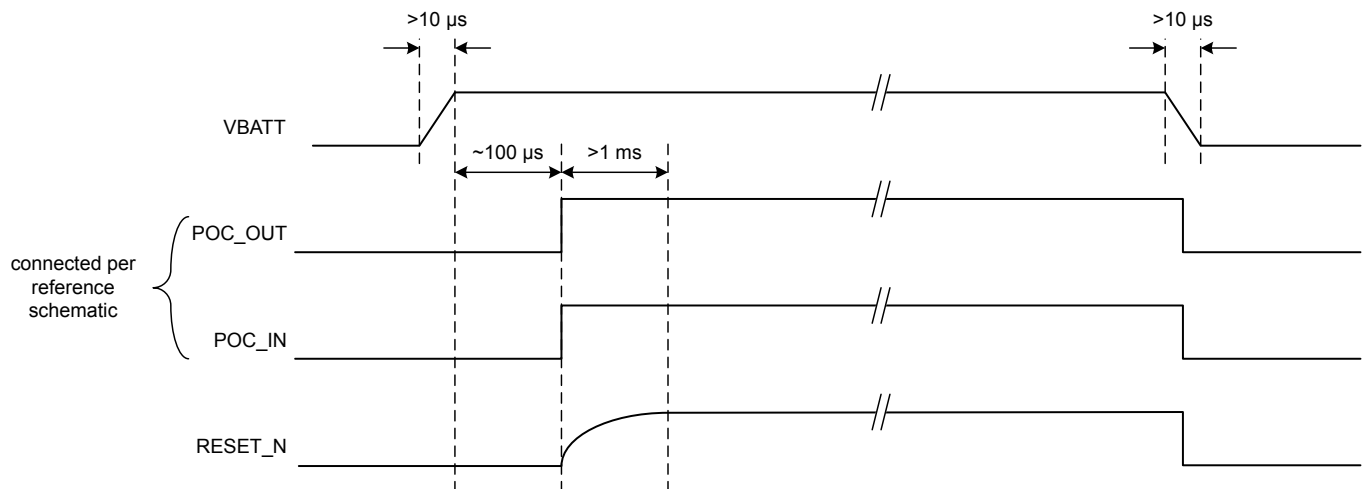

Figure 7.1. Power Up Sequence
- **RESET_N:** RESET_N is an open-drain signal which will be pulled low during a chip reset. It is released after POC_IN is high. RESET_N should be connected to an RC circuit to fulfill the timing requirements shown in Figure 7.1. Power Up Sequence.
Figure 7.1. Power Up Sequence shows the signal timing when POC_OUT, POC_IN, and RESET_N are connected per the recommended schematic. The POC_IN-to-RESET_N delay will occur when POC_IN transitions from low to high. VBATT in the figure refers to the connection of UULP_VBATT_1 and UULP_VBATT_2 (connected together in the schematic).